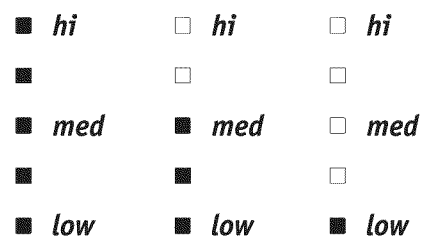

Figure 3
2. Set the desired power level. Touch **^** once to turn ON the power level for HI (see Figure 3) or **v** to turn ON the power level for LO (see Figure 5). The keep warm drawer indicator light located beside the **on•off** pad will turn ON steady.
3. Each touch of the **v** or **^** pads will decrease or increase through 5 power levels from HI (see Figure 3) to MED (see Figure 4) to LO (see Figure 5).